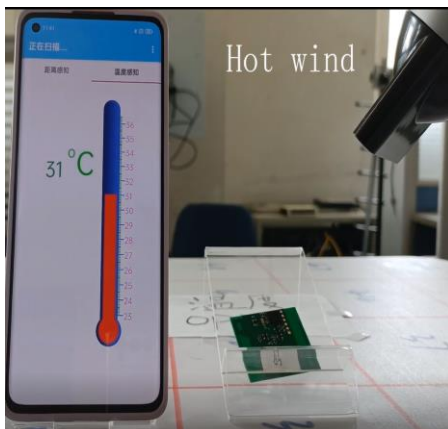

Figure 2
- Prototype using RF power and backscattering (Figure 2/3) [11]